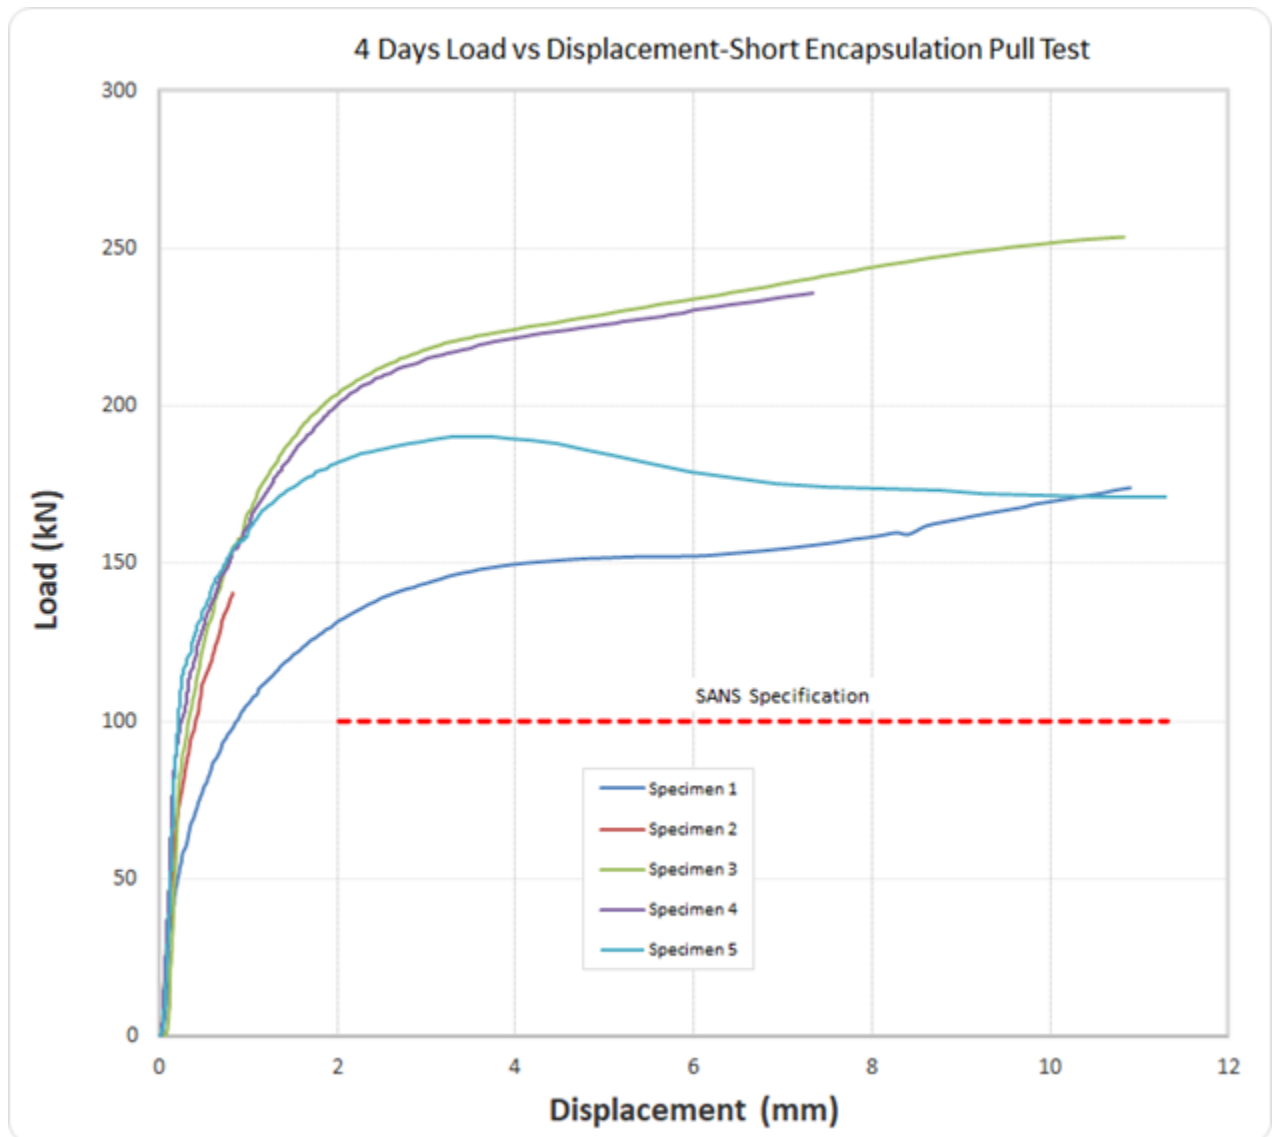

Figure 1 Short Encapsulation Pull Test of the Resin Bolt System
- 3.6 According to 1534:2018 SANS Specification on Short Encapsulation Pull Tests (SEPT), the test shall be considered passed if at least four out of five samples meet the minimum load of 100kN before the 2mm displacement. When answering the following questions, refer to Figure 1 in Appendix A.